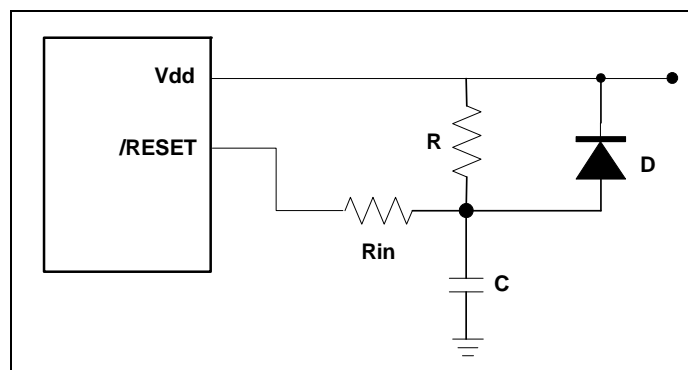

Figure 6-22 External Power-up Reset Circuit
The circuit shown in Figure 6-22 uses an external RC to produce a reset pulse. The pulse width (time constant) should be kept long enough for V_{dd} to reach minimum operation voltage. This circuit is used when the power supply has a slow rise time. Since the current leakage from the /RESET pin is $\pm 5 \mu\text{A}$, it is recommended that R should not be greater than 40 K Ω . In this way, the /RESET pin voltage is held below 0.2V. The diode (D) functions as a short circuit at the moment of power down.